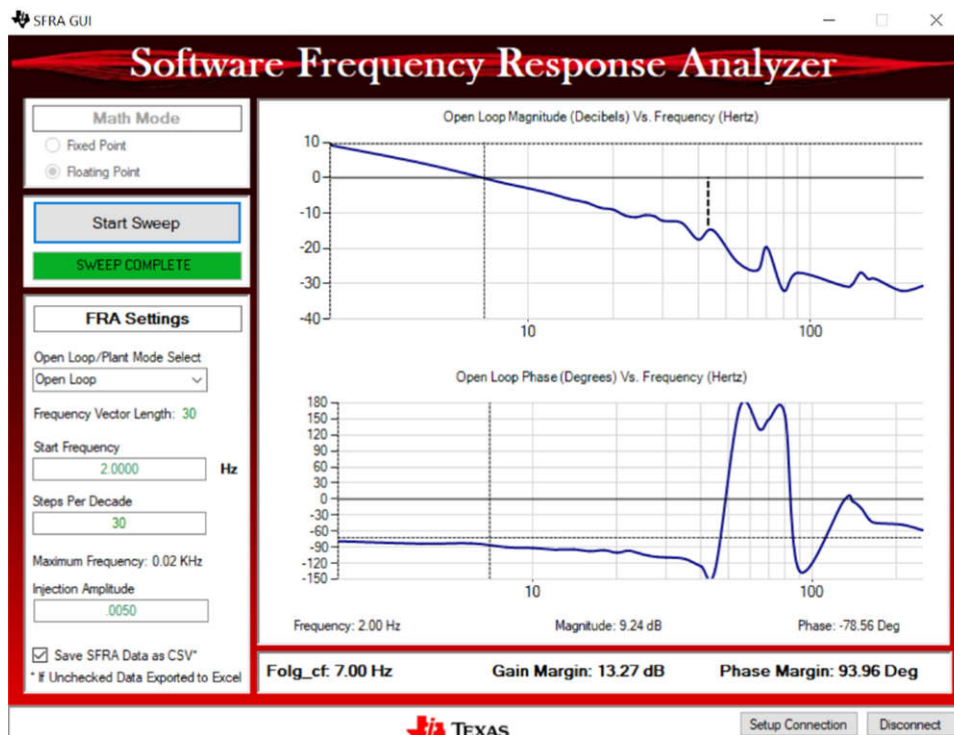

Figure 3-20. SFRA Run on PFC Closed Voltage Loop
- The SFRA GUI connects to the device. A SFRA sweep can now be started by clicking *Start Sweep*. The complete SFRA sweep takes a few minutes to finish. Activity can be monitored by seeing the progress bar on the SFRA GUI and checking the flashing of blue LED on the back on the control card that indicates UART activity. Once complete, a graph with the open loop plot appears, as seen in Figure 3-20. This action verifies that the designed compensator is indeed stable. The frequency response data is also saved in the project folder under an SFRA data folder and is time stamped with the time of the SFRA run.